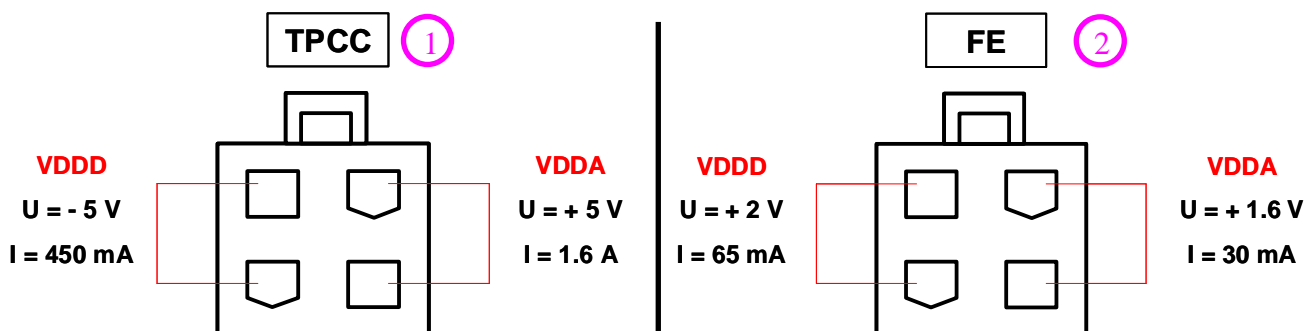

Figure I.11 : Front of the Molex connector and supply values for the two supply cables
Figure I.11 show the two connectors plugged in TPCC. ① TPCC supplies the TPCC board; it is connected near the multicolor ribbon cable. ② FE connector is plugged on the TPCC back and supply the Front end card.